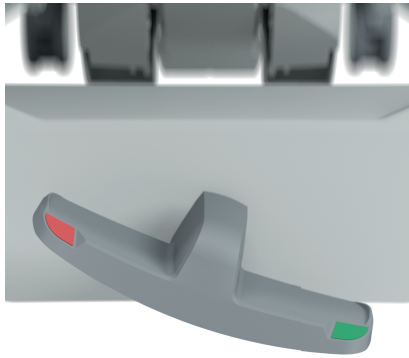

Figure 10 – Applying Steer-Lock
2. To apply the steer caster, depress the green side of the pedal (Figure 10).